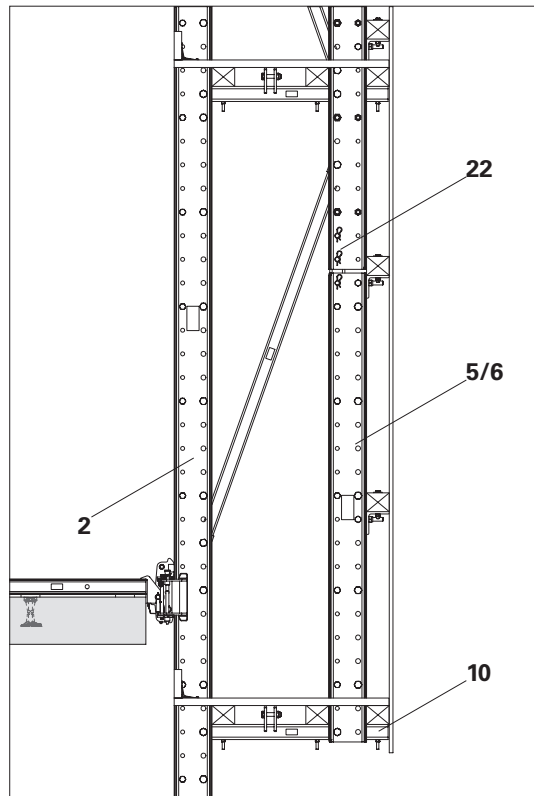

Fig. B1.09
Screw the climbing rails onto enclosure post 1 with Climbing Rail Connectors R CS 33 (22). (Fig. B1.09)